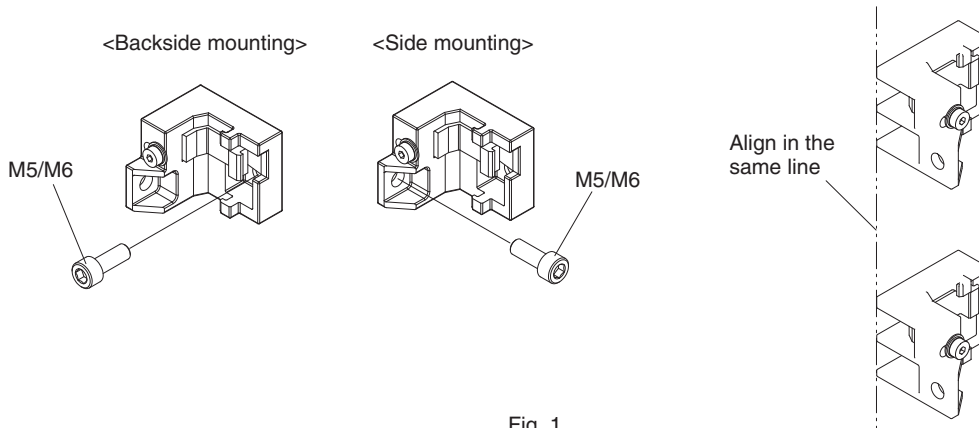

Fig. 1
- Securely tighten the screws to fix the Side-Mount Bracket to the mounting position of the wall surface. When using more than one Side-Mount Brackets, align them in the same line using the sides of the brackets that do not face the wall, before attaching the brackets to the sensor. (Fig. 1)